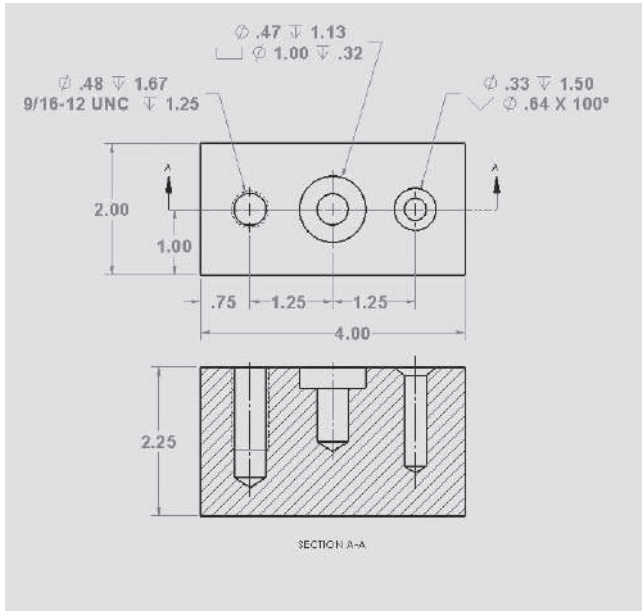

Figure P7-45
1. Draw a 3D model from the given top orthographic and section views in Figure P7-45.